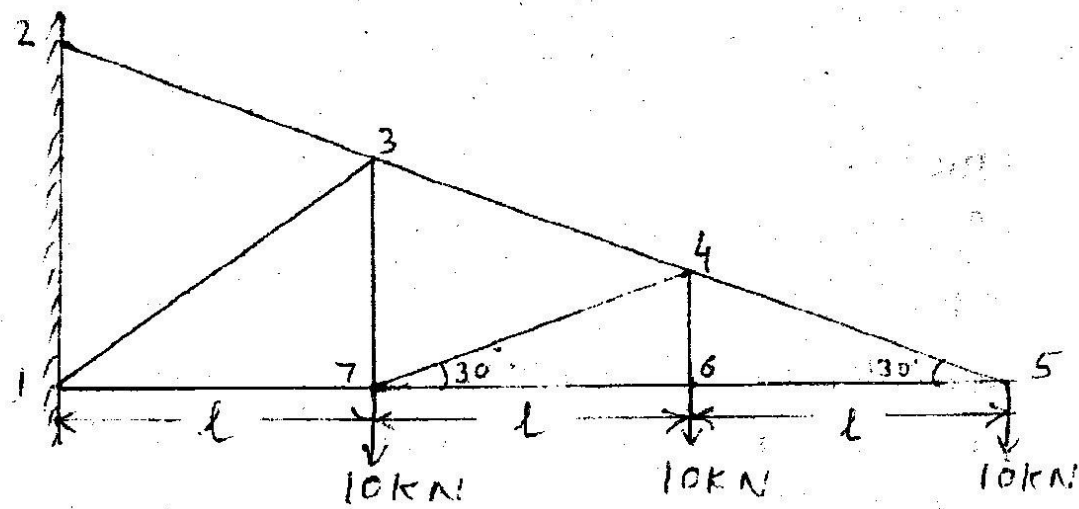

Fig. 2
- 3 A cantilever truss is shown in Fig. 2 below. Find the magnitude and nature of forces in the members 3-4, 4-7, 4-6 and 6-7 using method of sections.